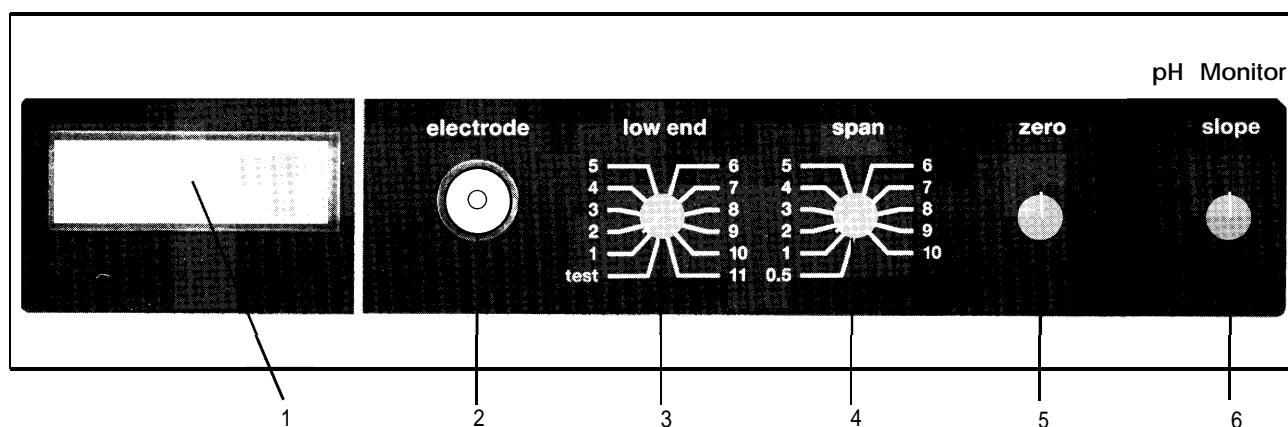

Fig. 1.
1. Connect the Standard pH electrode (Code No. 19-8306-01) to the electrode connector (Fig. 1).
7. Connect the Flow-through pH electrode to the electrode connector (Fig. 1:2).